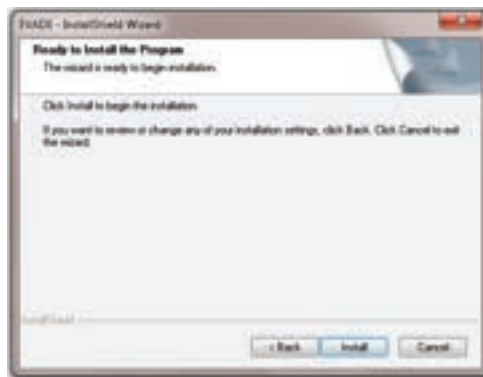

Figure 11. Confirm installation window.
8. The next window notifies you that the program is ready for installation (Figure 11).